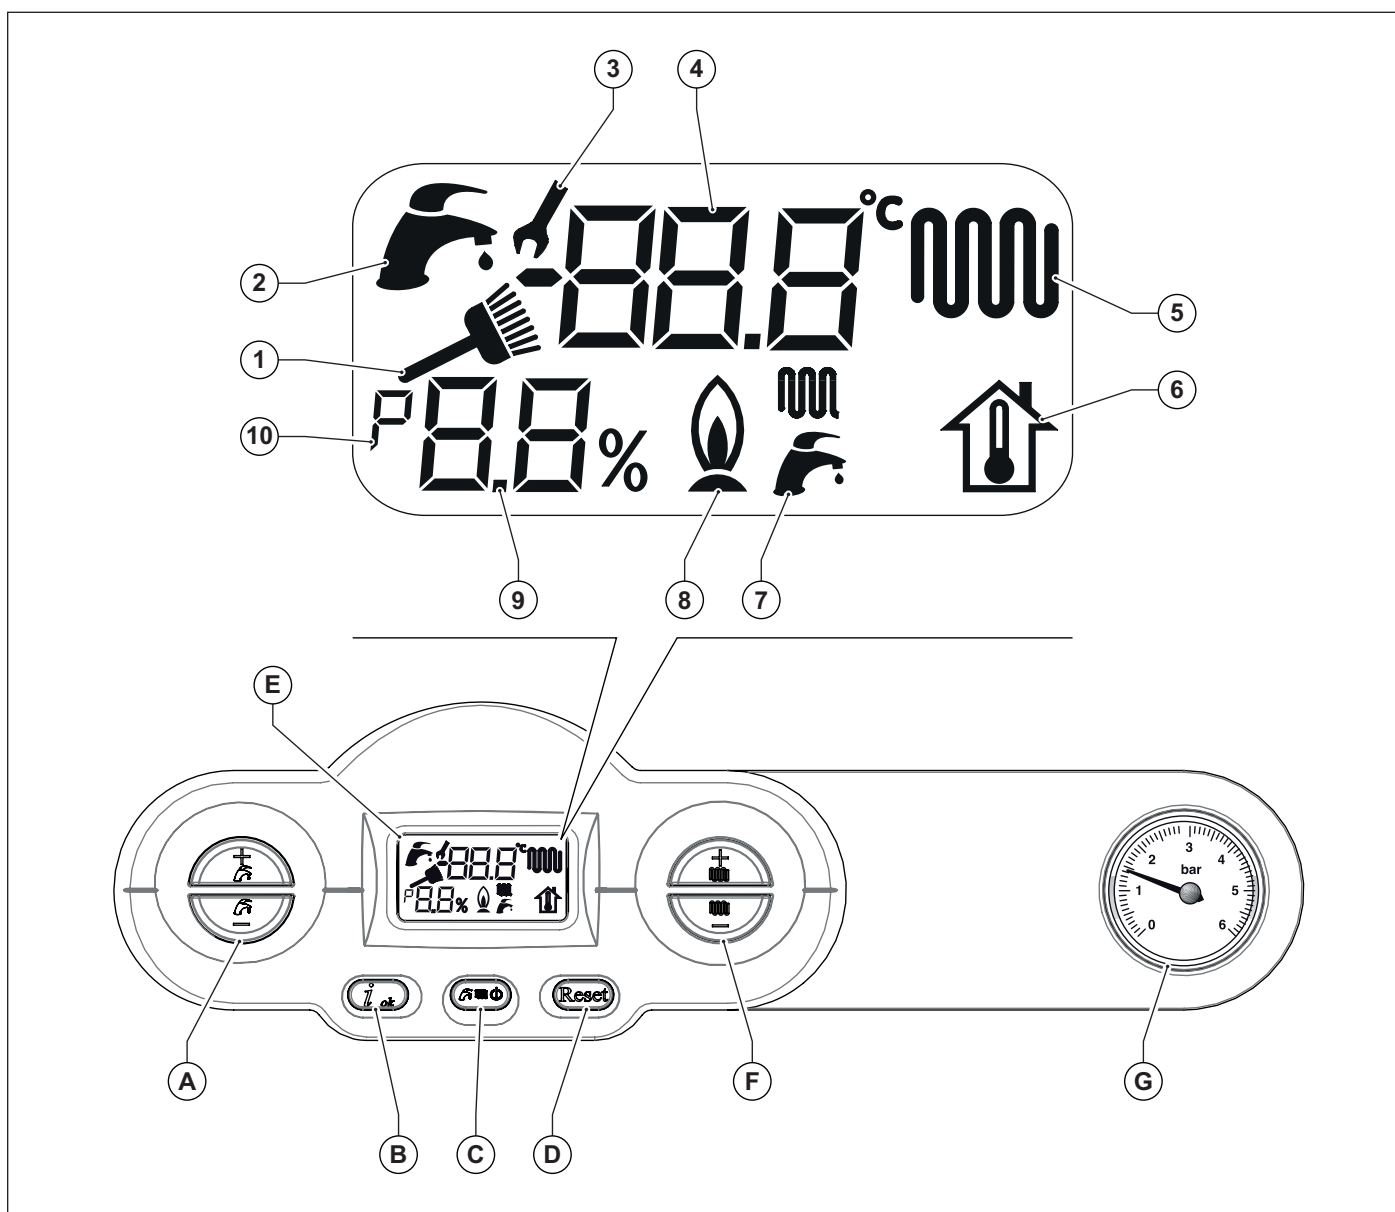

Fig. 1 Control panel
| Fig. 1 Control panel . . . . .   | 8  |
- Select the boiler operating mode: OFF/SUMMER/WINTER/CH ONLY (see button (C) in Fig. 1 Control panel on page 8).